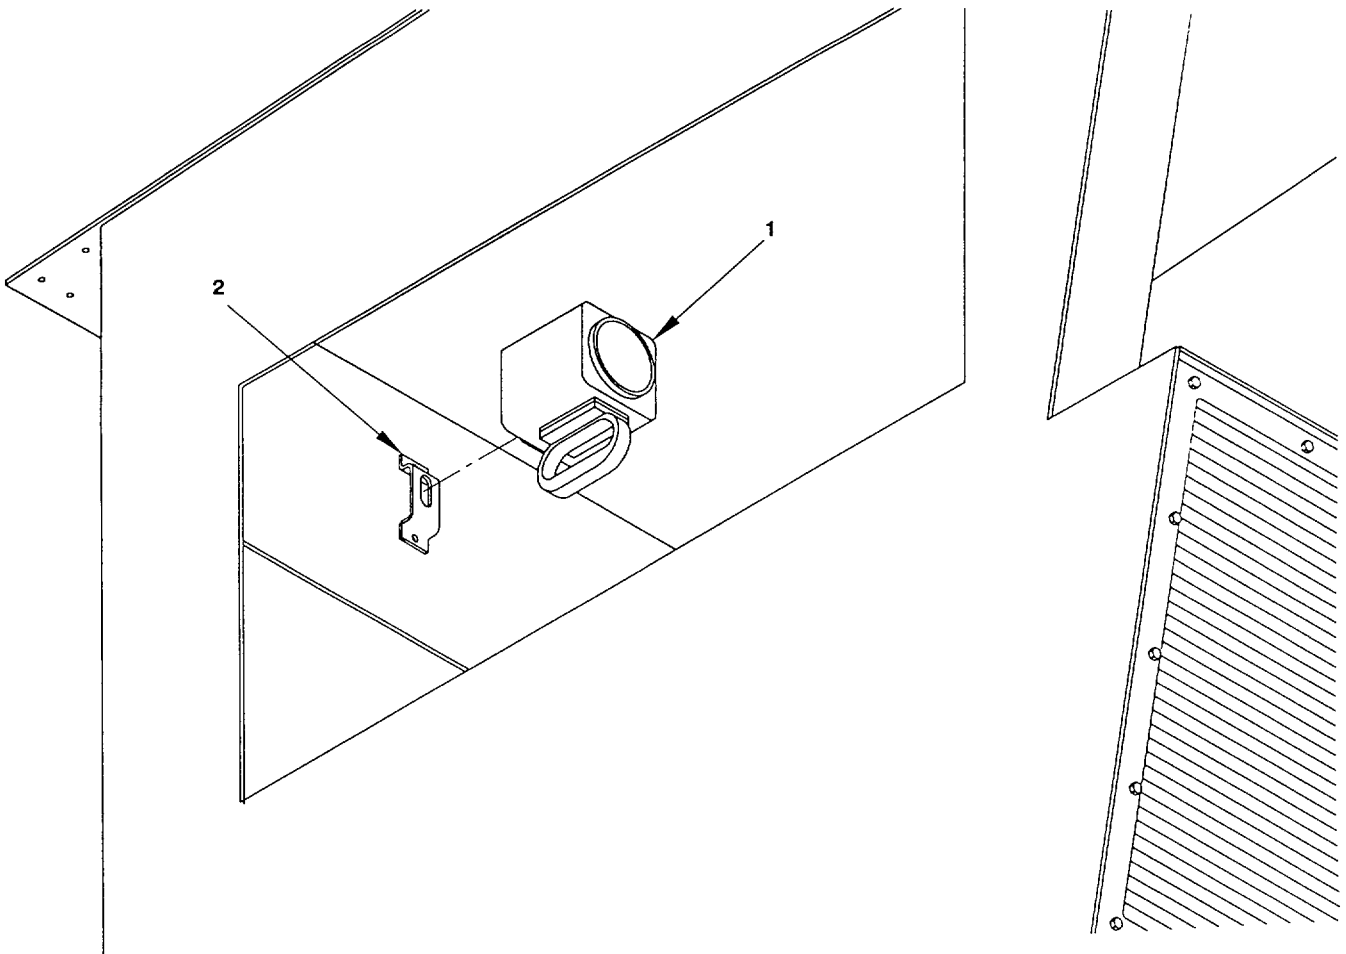

Figure 2-94. Battle Lantern, Remove/Install.
a. *Remove.* (figure 2-94)
b. *Install.* (figure 2-94)